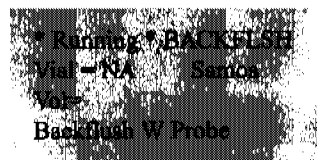

Figure 4.11. Running Backflush message
1. Use [2 ▼] or [8 ▲] to select **Backflush W Probe** in the Manual Flush menu. Press [Enter]. The Running Backflush message displays (Figure 4.11).